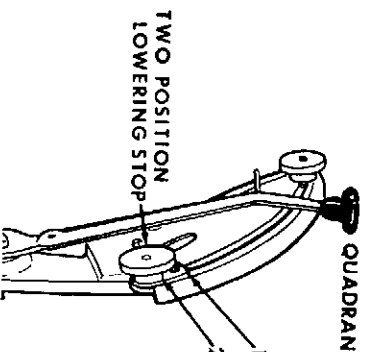

Figure 40
**RAISING** - Pull the quadrant lever upward to raise a mounted implement. **NOTE** There is an adjustable raise stop on the quadrant that can be adjusted to act as stop for the desired raise position. Figure 40. This stop must never be removed and the lever must never by-pass this stop or serious damage to the pump may result.
3. Move the 2 position adjustable stops so the 1st position is against the quadrant lever, Figure 40.